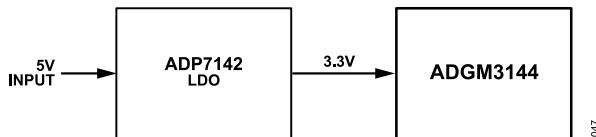

Figure 63. Unipolar Power Solution
**Figure 63** shows an example of a unipolar solution for the ADGM3144. The ADP7142 is a low dropout linear regulator that operates from 2.7V to 40V and is ideal for the regulation of high performance analog and mixed-signal circuits operating from 3.9V down to 1.2V rails. The ADP7142 has 11 $\mu$ V rms output noise independent of the output voltage. The ADP7142 can be used to power the supply rail for the ADGM3144, a microcontroller, and/or other devices in the signal chain.